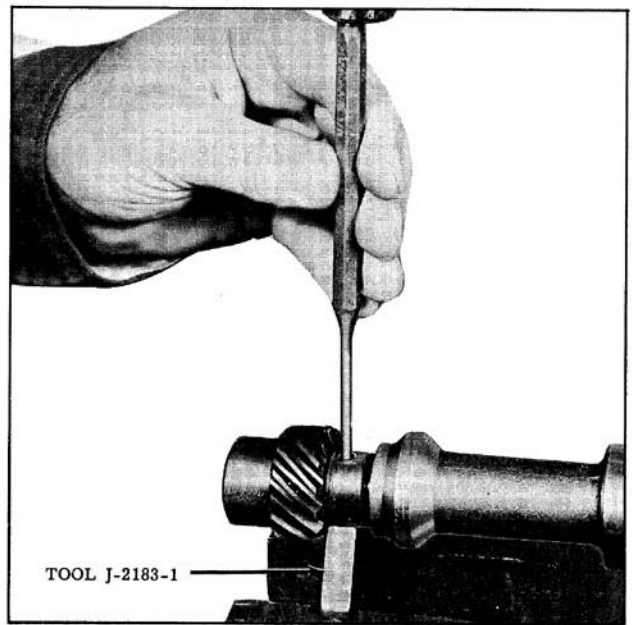

Fig. 13-73 Removing Roll Pin
2. Drive out the roll pin. (Fig. 13-73)